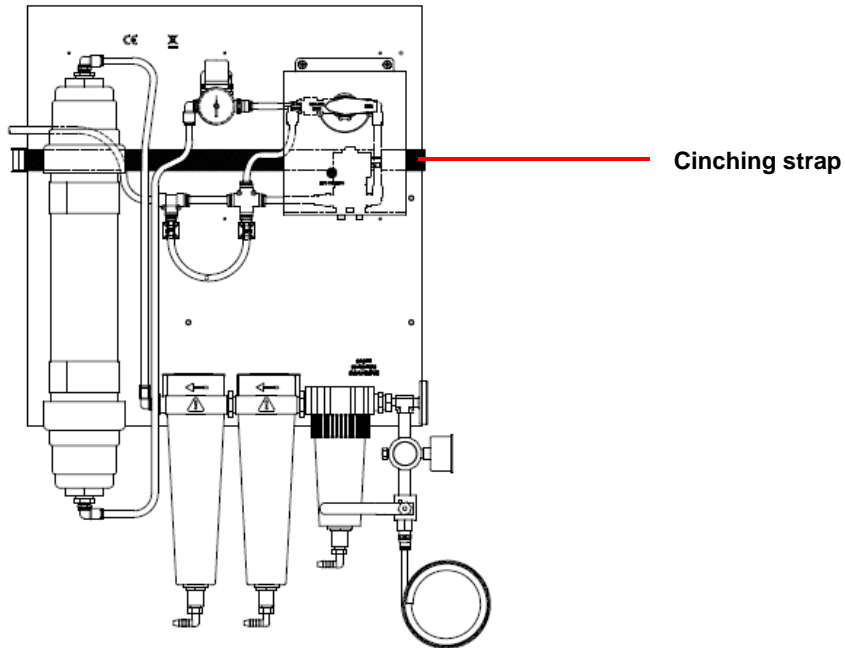

Figure 11 Cinching strap.
- 14 Remove the Cinching Strap. See Figure 11.